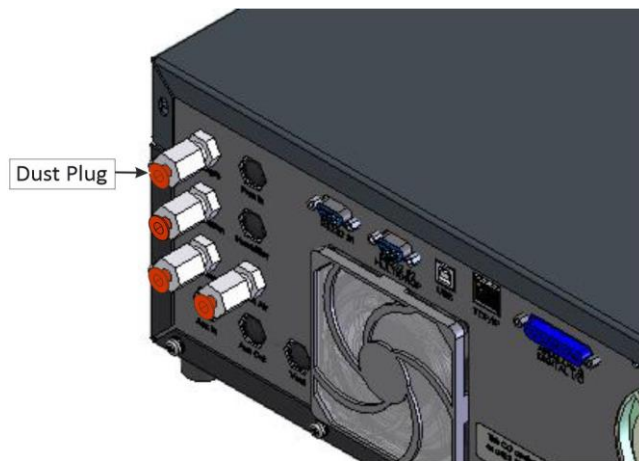

Figure 37 – Dust Plugs
5. Refer to Figure 37. Seal each pneumatic ports with a dust plug.